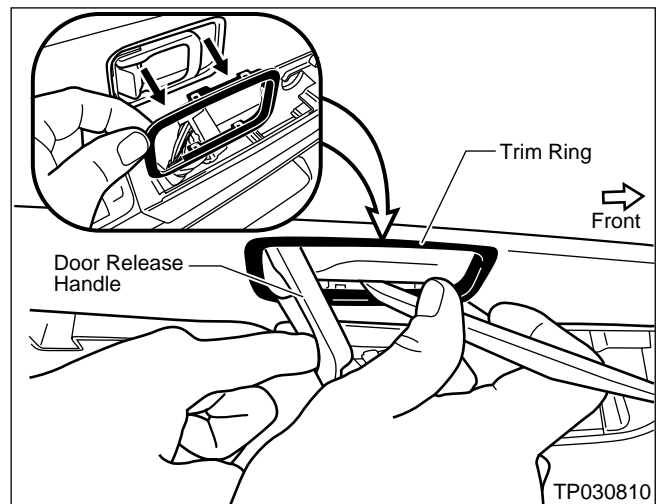

Figure 30
8. Use a Plastic Pry Tool to carefully remove the Trim Ring from the Door Release Handle (see Figure 30).